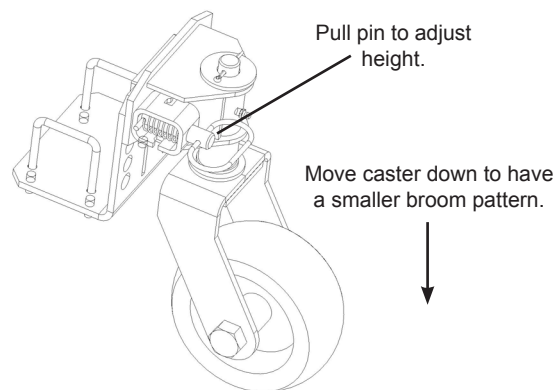

Figure 3
4. Lower casters until they touch the ground and secure caster pin in place. See Figure 3.